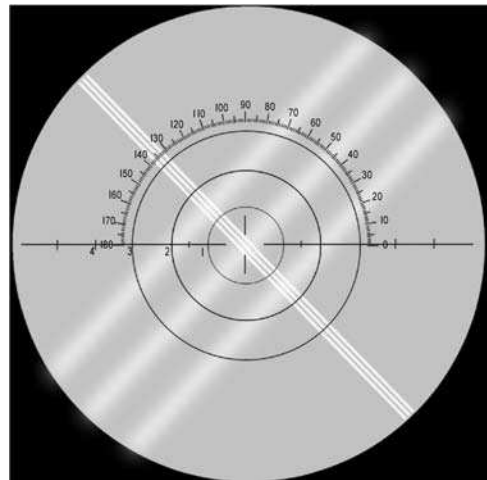
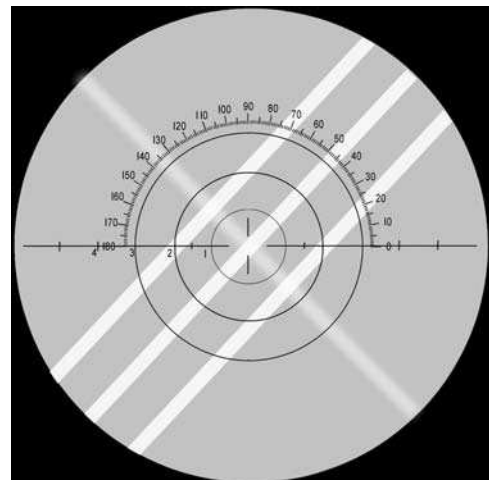
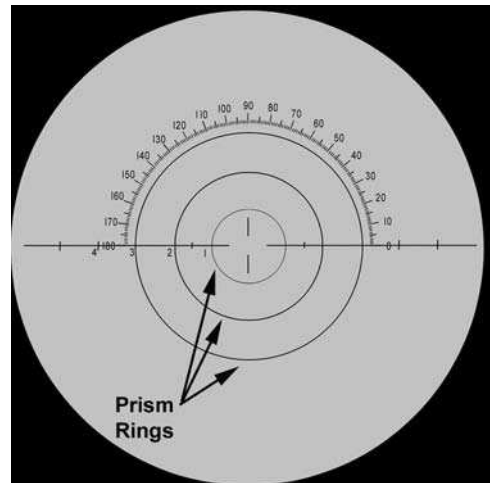

Fig. 7
Fig. 8
Fig. 10
3. If only the sphere lines or only the cylinder lines can be focused sharply, the lens has cylinder power (Fig. 7). By turning the power wheel, you will be able to find a position at which the sphere lines are in focus (Fig. 8). When the sphere lines are in focus, turning the power wheel only will bring the cylinder lines into focus (Fig. 8). The prescription of any cylinder lens can be written in two forms; one with a plus cylinder and the other with a minus cylinder.
Prism power is indicated by the position of the center of the target with respect to the eyepiece reticle. Fig. 8 shows the eyepiece reticle with the prism rings indicated by the arrows. The innermost ring is 1 prism diopter, the second ring is 2 prism diopters, The third ring is 3 prism diopters. The innermost tips of the scale lines indicates 1/2 prism diopter. (Fig. 10)